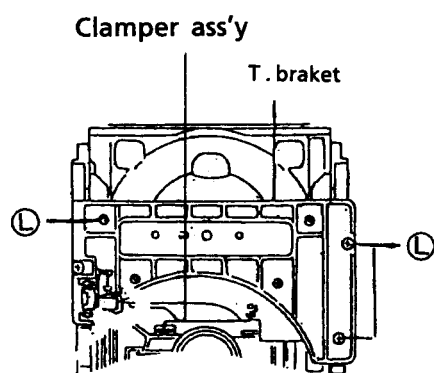

Fig.22
4. Remove 3 screws④ securing T.Bracket.(See Fig. 22.)